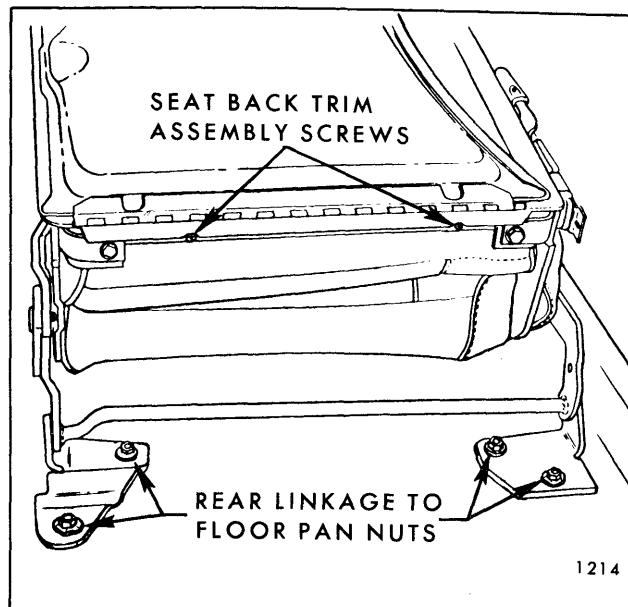

Fig. 10-68—Folding Second Seat Rear Linkage
1. Remove rear door sill plate and turn back floor carpeting sufficiently to gain access to nuts securing folding seat front and rear linkage to floor pan (Fig. 10-68 and 10-69).
3. Remove nut and washer assemblies securing front and rear linkage to floor pan (Fig. 10-68
2. Remove seat back trim assembly attaching screws. (see Fig. 10-68).